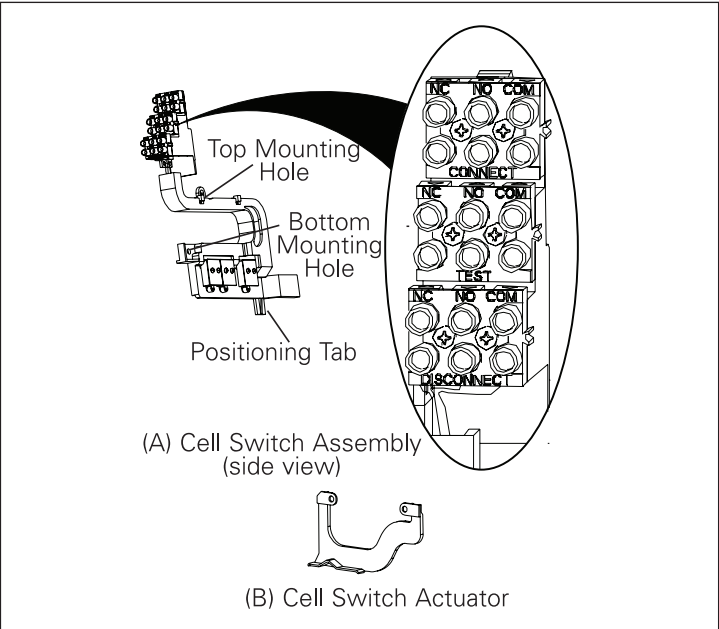

Figure 2. Contents of Kit.
- Refer to Figure 2 for visual identification of the parts listed below:
- (A) Cell Switch Assembly (with mounted labels) (1);
- (B) Cell Switch Actuator (1); and
- (C) 10 mm self-threading TORX mounting screw (not shown).